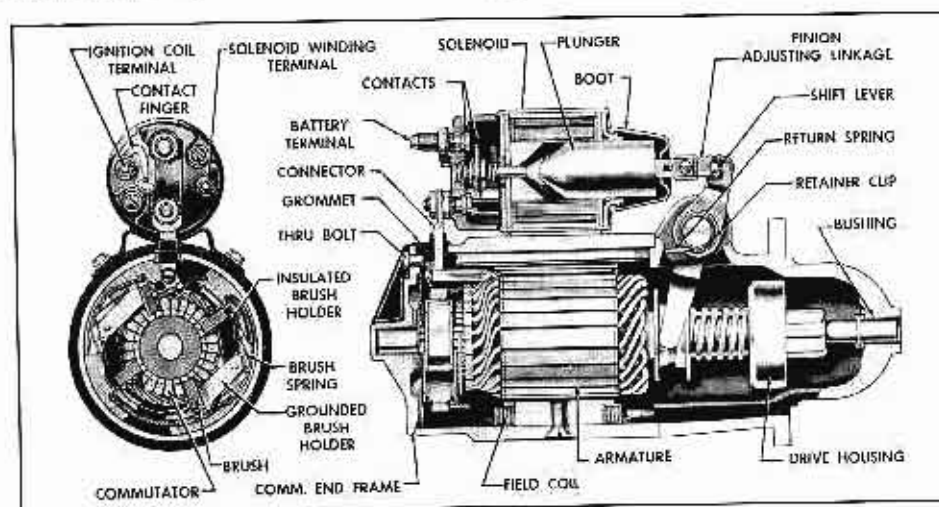

Fig. 11-30 Starter Cross Section
2. Remove three bolts and remove commutator end frame and field frame assembly, Fig. 11-30.